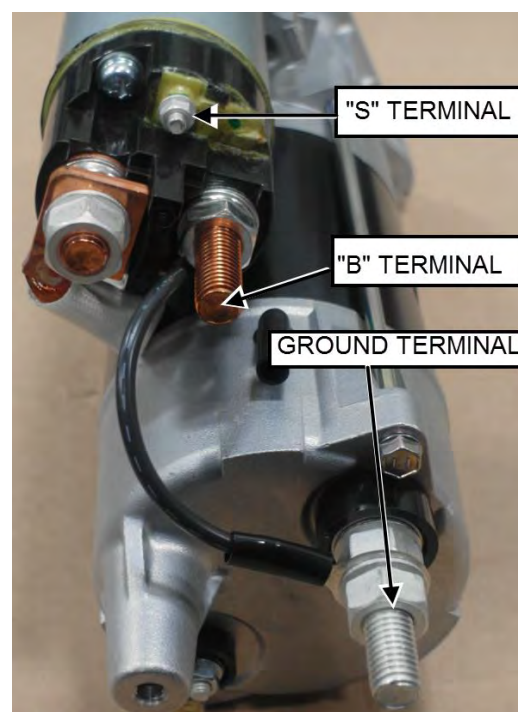

FIGURE 4 : TERMINAL IDENTIFICATION
7. Connect circuit **101** to **B** terminal (FIGURE 4 & FIGURE 5). Position circuit **101** cable to be in line with the nylon tie mount on the starter.
9. If not already done, remove the nut and washer provided with the brand new starter on **S** terminal (FIGURE 4).